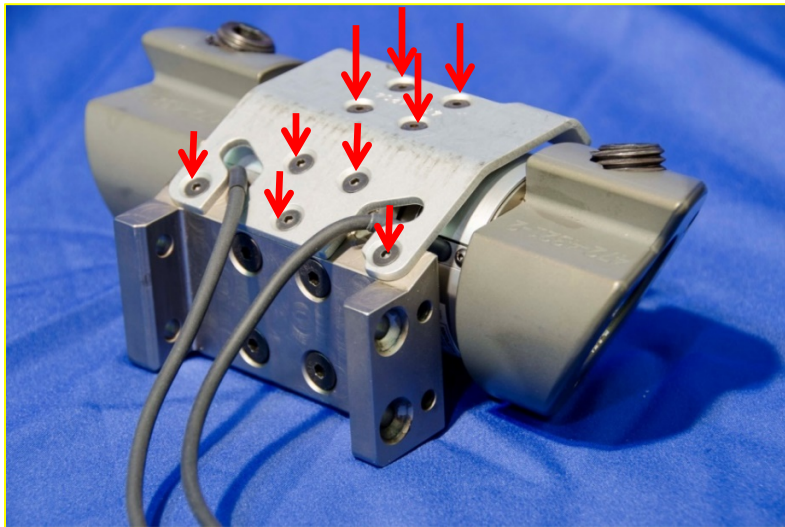

Figure 10-12. Top plate assembled to load cell mounting plates
10.2.2.7 Bolt the Top Plate (472-4204) to the top of the left and right load cell mounting plates, using five M4 x 8 FHCS (angled edge), and four M4 x 8 FHCS (top surface) (Figure 10-12). The Acetabular load cell wires must exit through the grooves at the rear of the top plate.